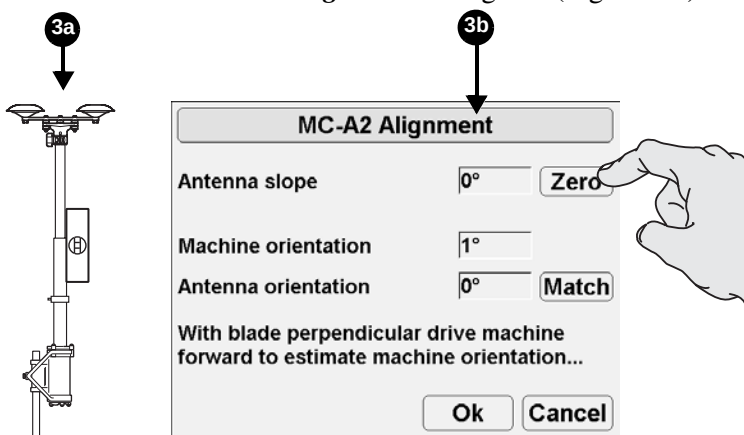

Figure 6-6. Level GPS Vibration Pole and Zero Out Antenna Slope
1. Place a level on the GPS vibration pole and tilt the blade until level (Figure 6-6).
3. Press **Zero** on the **MC-A2 Alignment** dialog box (Figure 6-6).